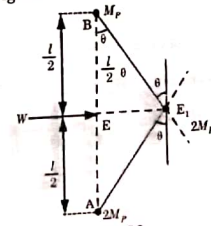

Fig. 30.
- a. In the column mechanism plastic hinges are formed at A, B and E as shown in Fig. 30.